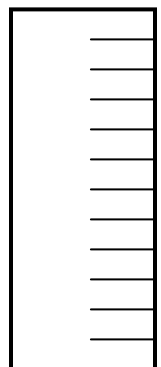

Figure 1
- b. Cut a waterproofing membrane strip: 6" wide to wrap the pipe with 2" overlap. Every 2", cut 4" flanges across the strip (Figure 1).